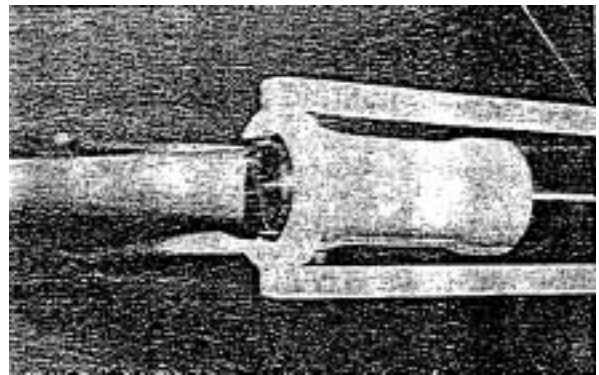

Figure 6: The headset tool in position to remove a bearing from the headtube.
- A) 9. Place the cage assembly around the head tube as before. Lower the threaded rod until the end of the rod seats between the bearing remover halves. Push the bearing out by tightening the threaded rod; repeat on other bearing if necessary (see Fig. 6).